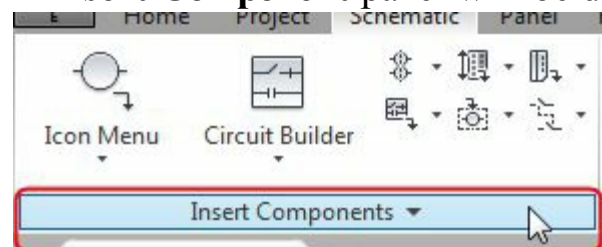
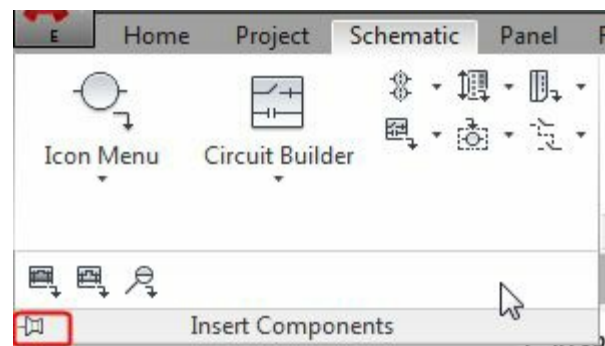

Figure-34. Down arrow to be clicked
Figure-35. Expanded Insert Components panel
- Click on the Down arrow next to **Insert Component** panel name; refer to Figure-34. The expanded **Insert Component** panel will be displayed; refer to Figure-35.